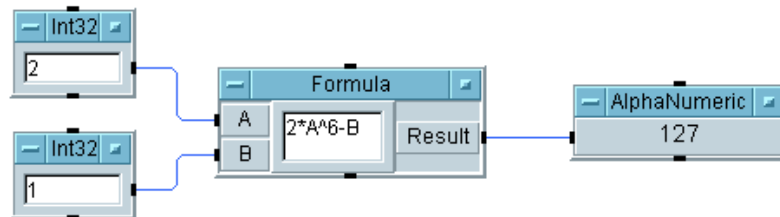

Figure 4-6. Evaluating an Expression
5. Select **Display** \Rightarrow **AlphaNumeric** and connect it to the output of Formula, and run the program. It should display the result 127, as shown in Figure 4-6.